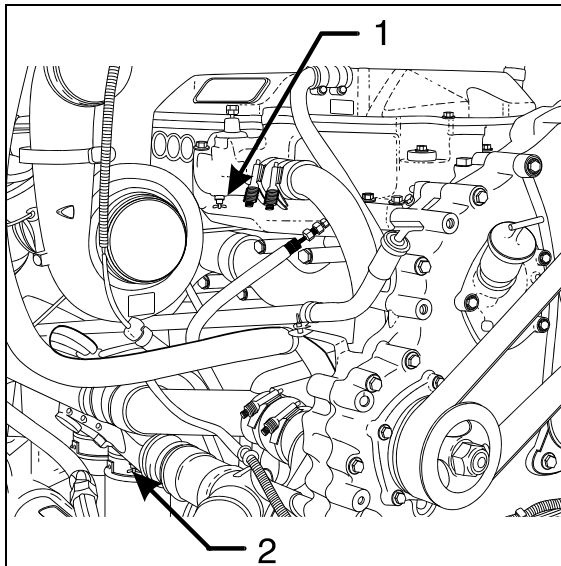

FIGURE 8: ENGINE COOLANT DRAIN COCKS 05074
4. Open drain cock at bottom of thermostat housing to drain the coolant trapped above the thermostats (1, Fig. 8).
6. Open engine drain cock (2, Fig. 8).